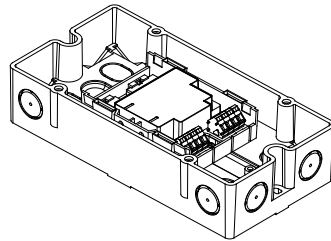

Fig. 3
- Installation outside a switching cabinet or a control unit: use FDCH221 housing (Fig. 3).
- Use two screws (M 4) to fit the housing on a plane surface (Fig. 3). Distance between holes: 182.0 ± 1.0 mm.
- Fix module with two screws in the housing (Fig. 3).